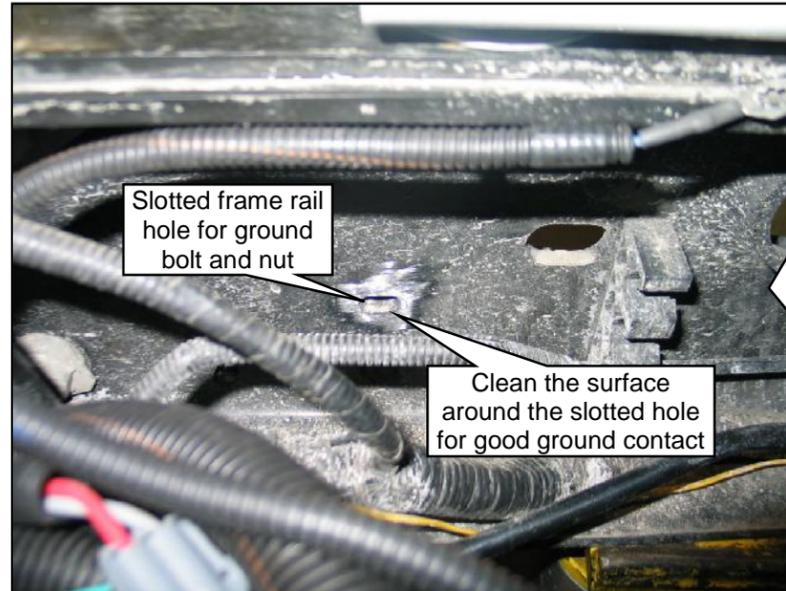
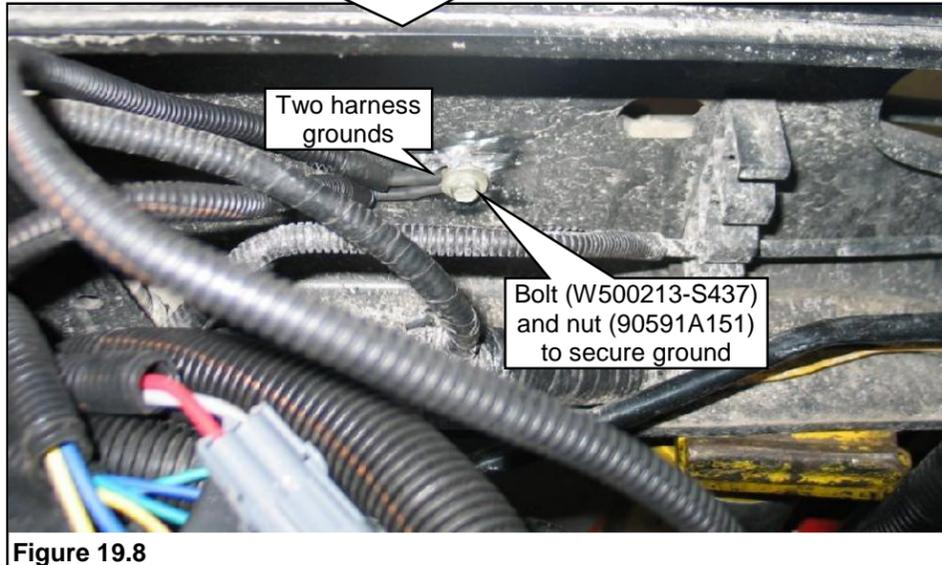
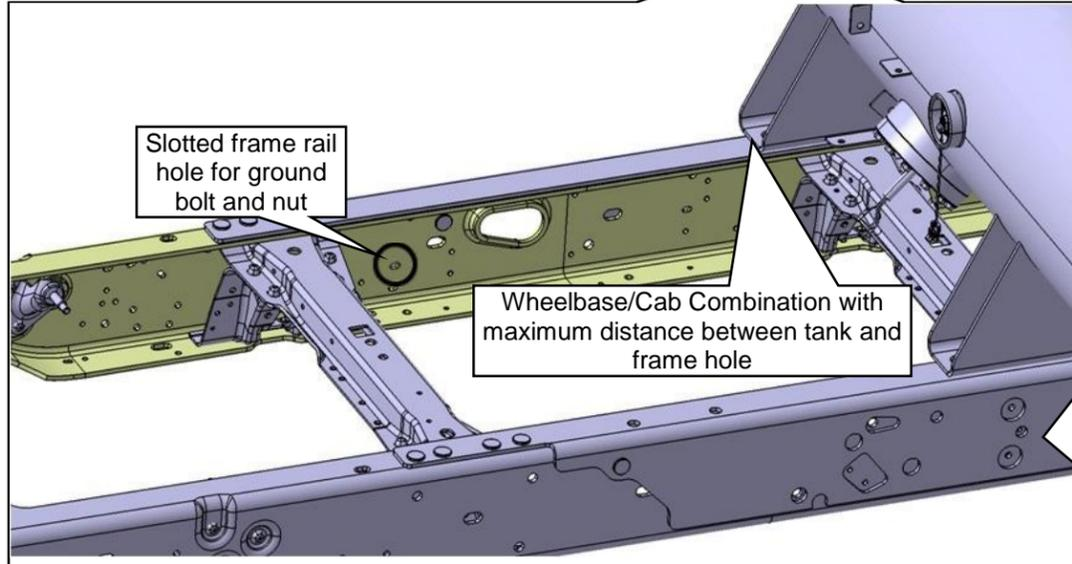

Figure 19.7
Figure 19.8
Figure 19.5 — OEM Aft-axle Tank Version
11. Connect the rear frame harness ground lead and the fuel tank jumper harness ground lead to the left frame rail using an M6 x 1.0 x 16 bolt and nut. Use the slotted hole as shown in **Figures 19.5, 19.6 and 19.7.** Tighten the ground to 8–12 Nm. **Figure 19.8. Note:** To make sure a good connection to ground is made, remove the paint around the slotted hole and under the ground eyelet location. **Figure 19.7.** Ground bolt and nut are supplied with the kit.